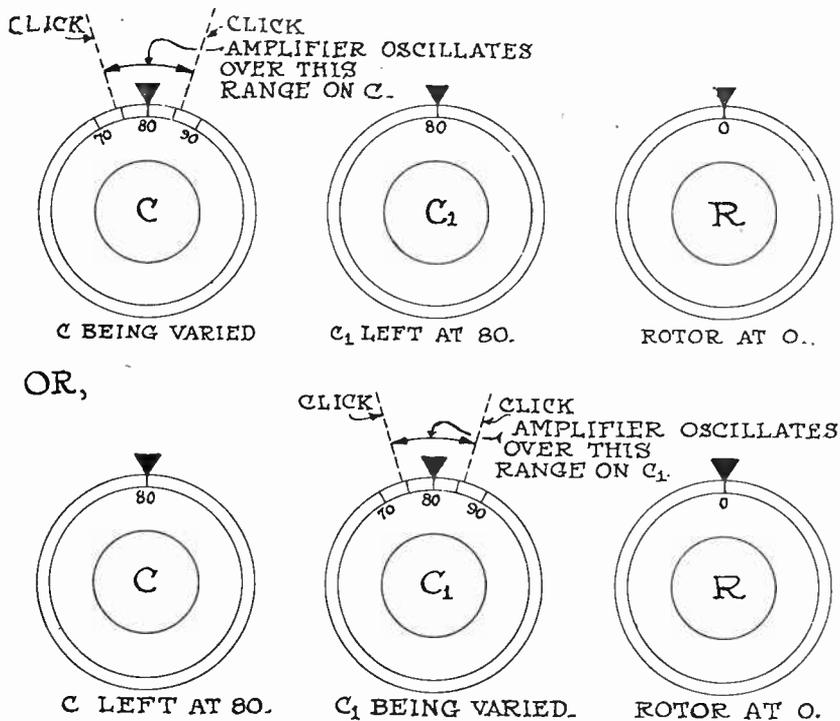

FIG. 8.
80. This indicates the commencing of radio frequency oscillations in the amplifier tube. If the condenser is now moved past 80 another click will be heard at a point a few divisions beyond. This click indicates the stopping of the radio frequency oscillations. These conditions are clearly indicated in the sketch of the controls in Figure 8.